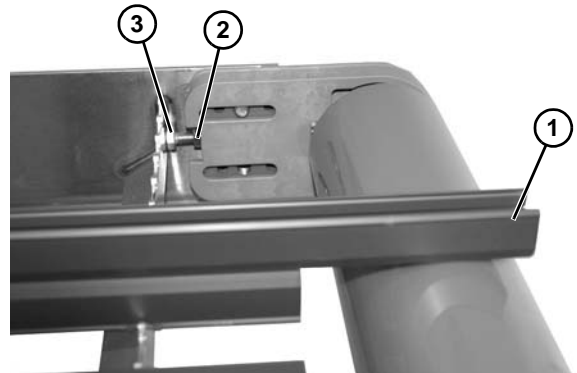

Figure 48
- Check level of head plate by placing a bed rail (Figure 48, item 1) onto top of conveyor frame and head plate.
- Loosen nut (Figure 48, item 2) and tighten or loosen bolt (Figure 48, item 3) to move head plate up or down to level with conveyor bed rail.